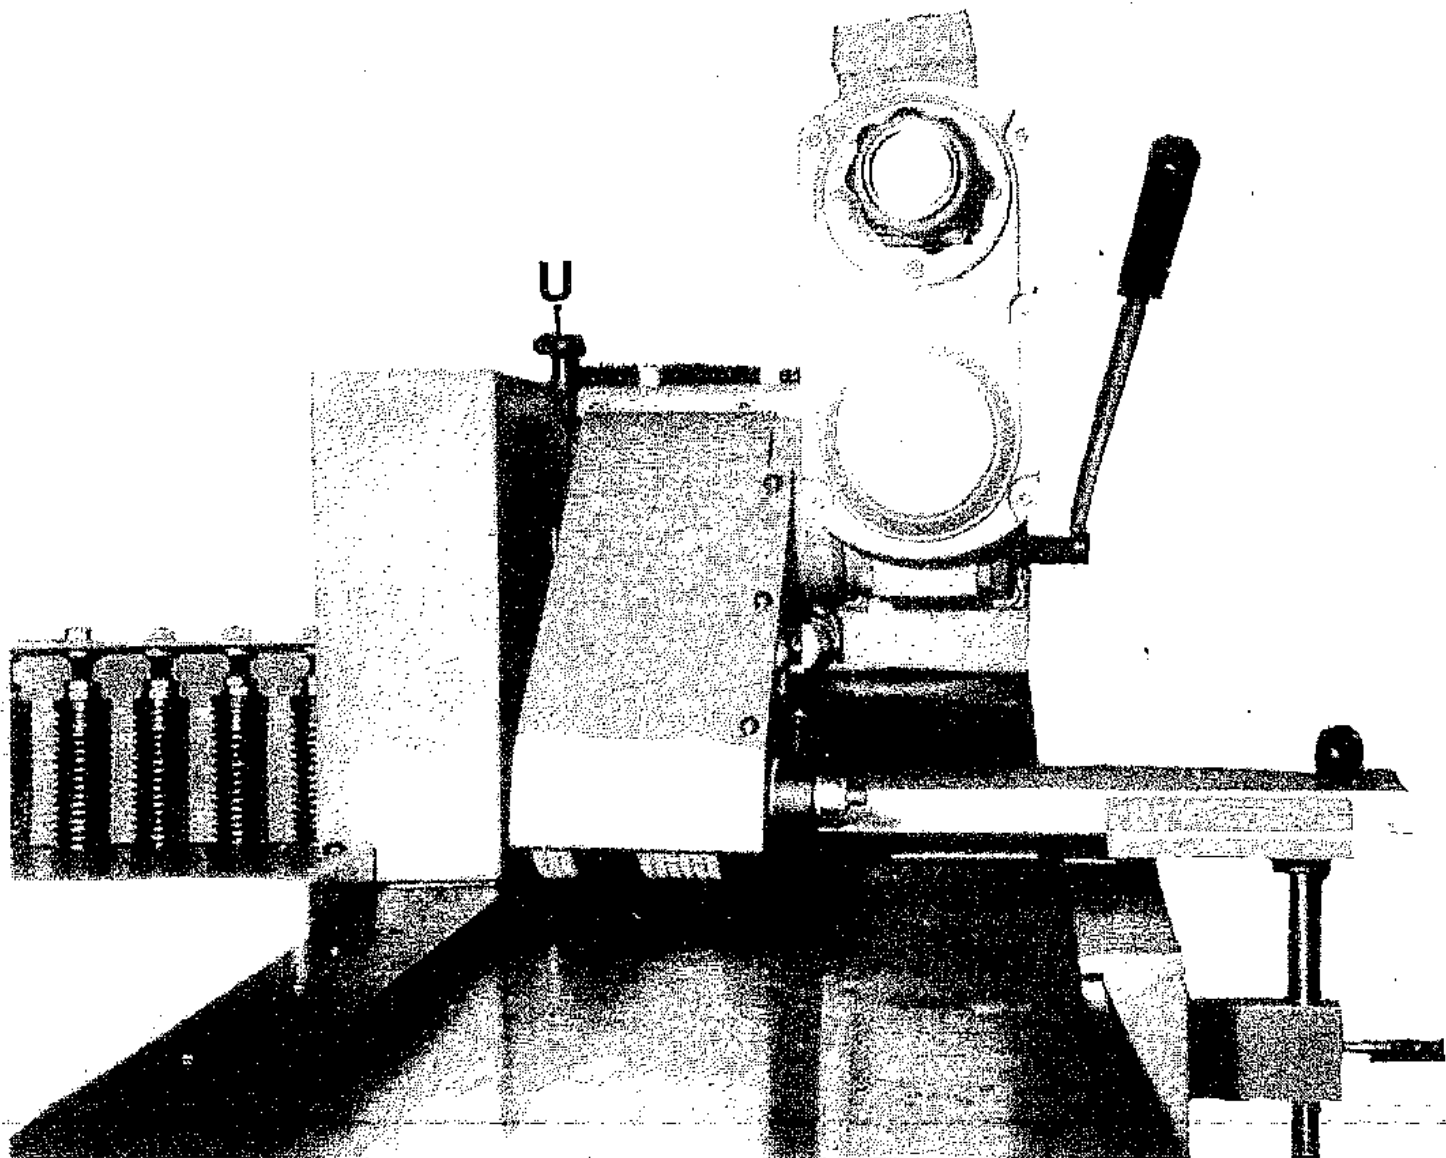
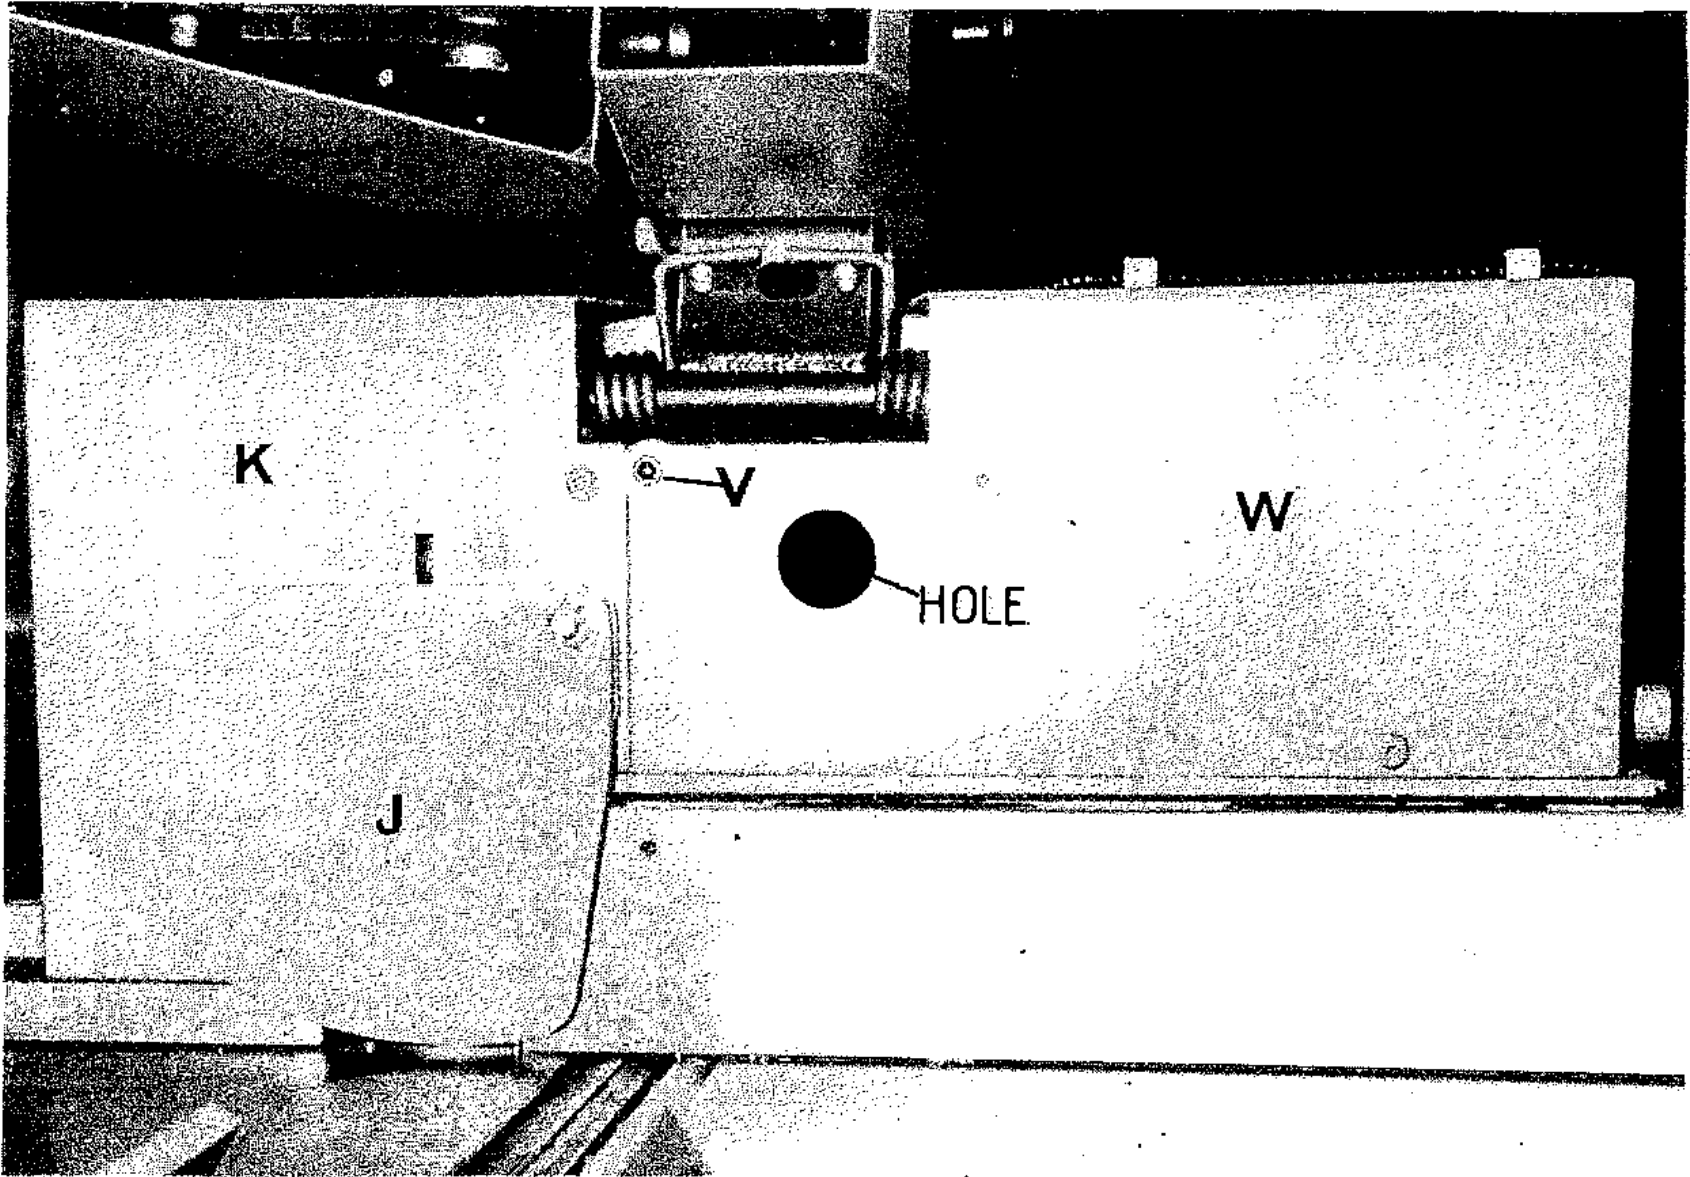

FIG.29
FIG.30
Tension of belt can be checked through hole under planer feed unit FIG.30. To gain access to hole and covers, loosen locking handwheel "U" FIG.29 and lift planer feed unit clear. If tensioning is required, proceed as follows:-
- b) Remove stop "V" from rear cover "W" FIG.30.
- d) Remove 2 - M8 button head screws and 1 - M8 countersunk screw from rear cover "W" FIG.30 (Countersunk screw situated at thicknesser side).
- f) Remove planer feed unit stop "V" FIG.30.
- g) Remove side head pivot guard "J" FIG.30 and stop behind guard.
- h) Remove 4 - M8 button head screws and 2 - M8 countersunk screws from covers "K" and "W" FIG.30 (2 - M8 countersunk screws are situated at thicknesser side) and remove both covers.